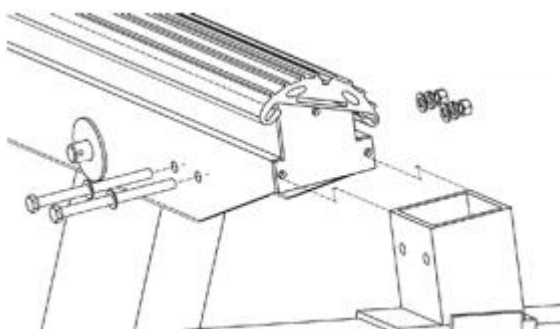

Figure 20
1. Insert the Guide Pole Mounting Bracket into the bottom of the Bunk support as depicted in Figure 20.
3. Attach one (1) 3/8" Flat Washer over two (2) Hex Bolts and insert into the corresponding holes in the Bunk support as depicted in Figure 20.
4. Attach one (1) Lock Washer and one (1) Hex Nut to each of the protruding Hex bolts and fasten with appropriate wrench until secure.
5. Repeat this step three (3) more times, once for the opposite end of the Bunk, and twice for the second Bunk.